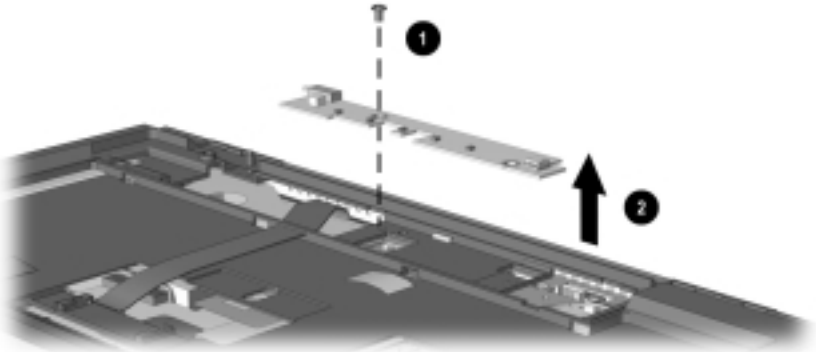

Figure 5-17. Removing the LED Board
4. Remove the screw ❶ that secures the LED board to the system board (Figure 5-17).
5. Lift up on the right side of the LED board ❷ to disconnect it from the system board.